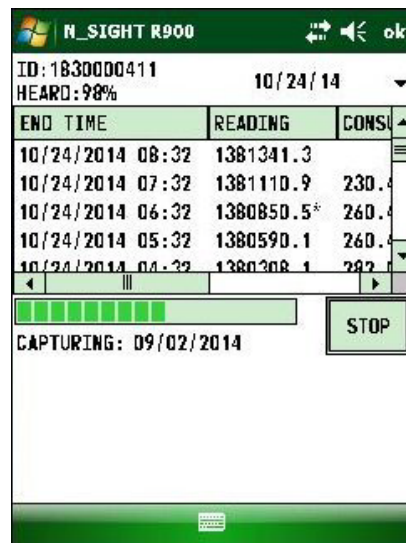

Figure 7.15 Receiving Data
- 9 The data received is displayed on the screen. The data logging process takes a few minutes. See Figure 7.15.